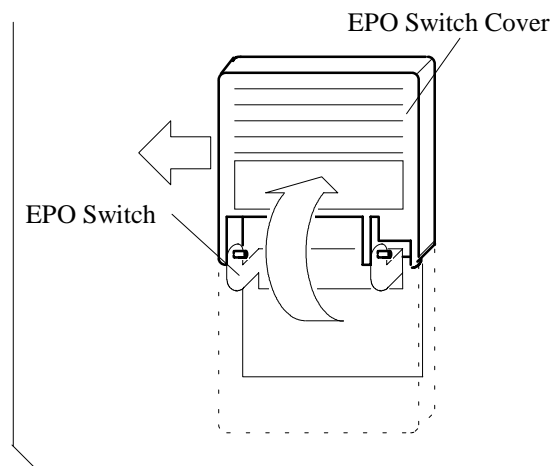

Fig. T2-3 Removal of EPO Switch Cover
- Attach the EPO switch cover. Refer to Fig. T2-3.